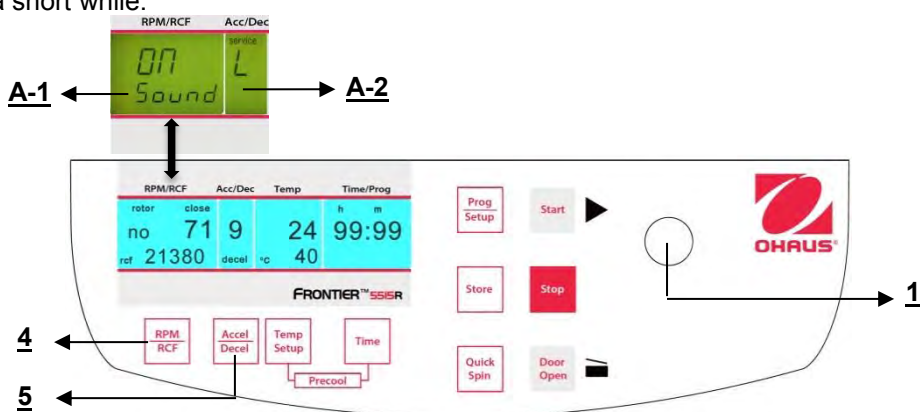

Figure. 33
Proceed as described under point 4.1.2 to enter this program mode and then press the key "**Accel/Decel**" (5). In the display "**Acc/Decel**" (A-2) the word "**Service**" flashes. Now select the letter "**L**" with the adjusting knob (1). As a result, the words "**On Sound**" appears in the display "**RPM | RCF**" (4). If you press the key "**RPM | RCF**" (4) now, the word "**On**" flashes and you can switch off the sound with the adjusting knob (1) (See figure 33).